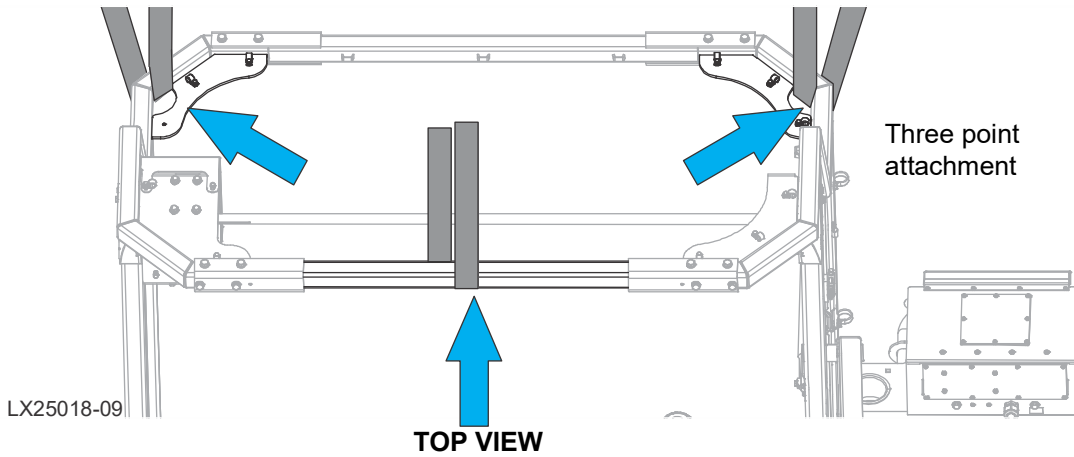

FIG. 3-1
3. Securely attach lifting straps of your lifting device (fork lift, crane, etc.) to the top of the mast as shown in Figure 3-1.
See Figure 3-1.